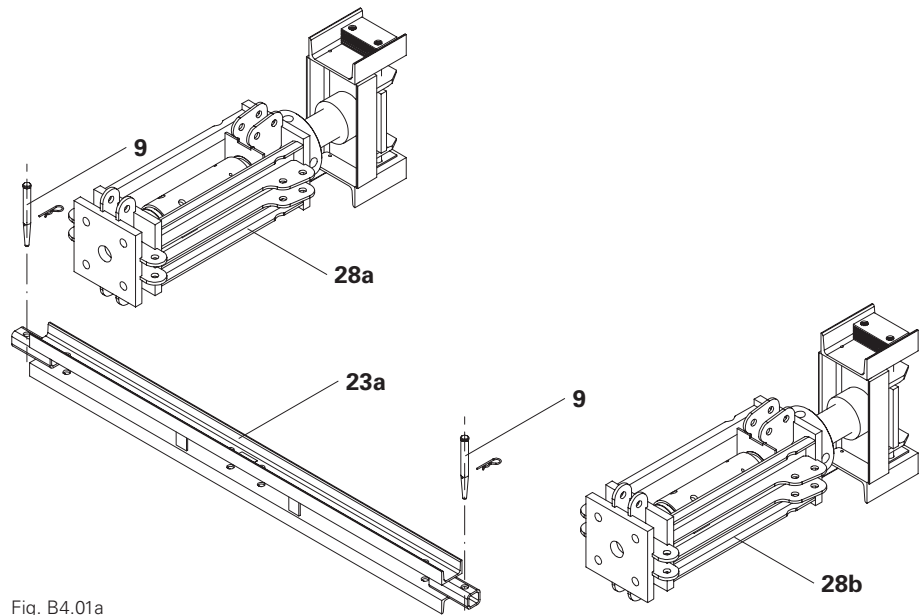

Fig. B4.01a
3. Connect the bottom horizontal ledger VST 200 (**23a**) to the second head spindle VST 100 (**28b**) using 1x fitting pin \varnothing 21 mm (**9**) and secure with cotter pin 4/1, galv.(Fig. B4.01a)